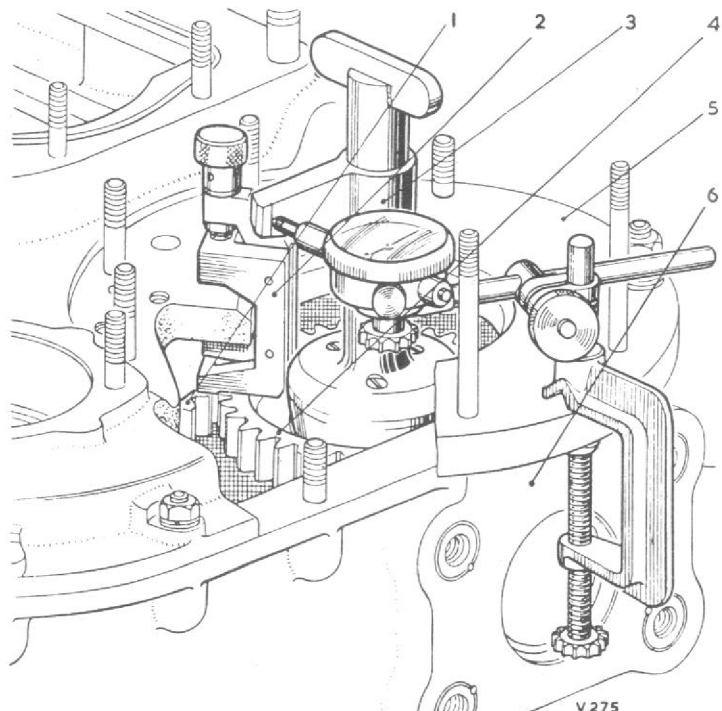

Fig. 23. Top wheelcase backlash checks
- (8) Remove the dial test indicator, the backlash tool, the bridge piece, and the generator drive assembly from the wheelcase.
- (9) Position a new joint strip (Part No. 95607), with the ends cut at an angle to make a scarf joint, to the groove in the top wheelcase face.
- (10) Secure the top wheelcase to the air-intake with slave washers and nuts fitted to alternate studs.
- (11) Secure the locking fixture T77235 to the wheelcase through the starter aperture and lock the tachometer and generator drive gear.
- (12) Position the backlash checking tool T77236 in the bore of the upper driving gear.
- (13) Clamp a dial test indicator to the top wheelcase flange with the stylus located on the scribed line of the backlash tool.
- (14) Check that the backlash between the tachometer and generator drive gear and the upper driving gear in the air-intake is within the limits (fig. 23).
- (15) Remove the dial test indicator, the backlash tool, and the locking fixture.
- (16) Assemble a new joint strip (Part No. 95391), with the ends cut at an angle to make a scarf joint, to the generator casing face.
- (17) Assemble the generator drive assembly to the top wheelcase and secure with four equally-spaced slave washers and nuts.